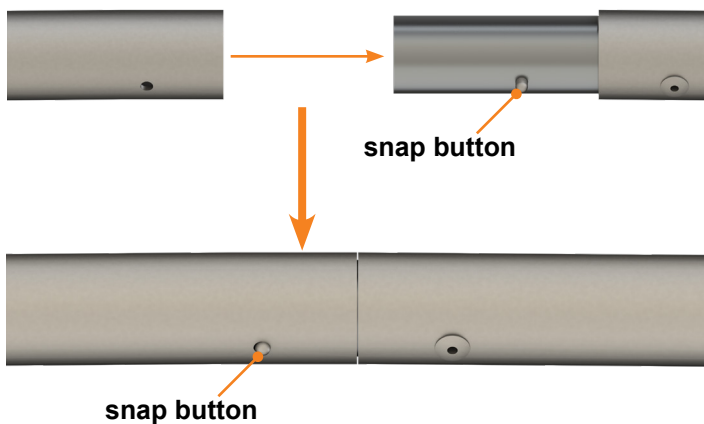

Fig.1
5. Snap the two sections of the tube together (Fig.1).